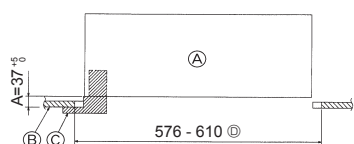
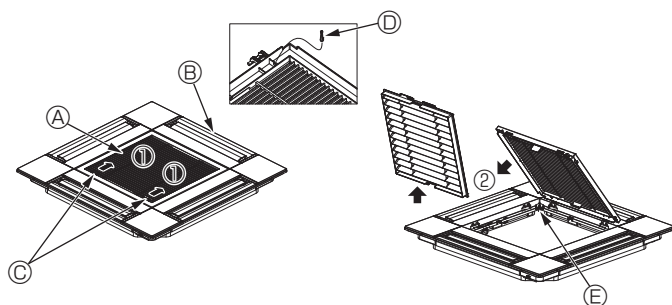
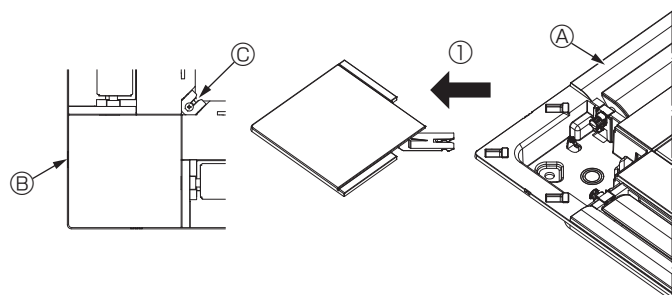

Fig. 5-2
Fig. 5-3
Fig. 5-4
②	Screw with washer	4	M5 × 0.8 × 28 (mm)
③	Gauge	1
④	Junction wire for signal receiver	1	Included when equipped with the signal receiver.
⑤	Junction wire for i-See sensor	1	Included when equipped with the i-See sensor.
⑥	Fastener	2	Included when equipped with the signal receiver.
⑦	Fastener	2	Included when equipped with the i-See sensor.
⑧	Wireless remote controller	1	Included when equipped with the wireless remote controller.
⑨	Remote controller holder	1	Included when equipped with the wireless remote controller.
⑩	LR6 AA batteries	2	Included when equipped with the wireless remote controller.
⑪	3.5 × 16 tapping screws	2	Included when equipped with the wireless remote controller.
5.2. Preparing to attach the grille (Fig. 5-2)
- ① Main unit
- ② Ceiling
- ③ Gauge (Accessory)
- ④ Ceiling opening dimensions
5.2.1. Removing the intake grille (Fig. 5-3)
- Slide the levers in the direction indicated by the arrow ① to open the intake grille.
- With the intake grille in the "open" position, remove the hinge of the intake grille from the grille as indicated by the arrow ②.
- ① Intake grille
- ② Grille
- ③ Intake grille levers
5.2.2. Removing the corner panel (Fig. 5-4)
- Remove the screw from the corner of the corner panel. Slide the corner panel as indicated by the arrow ① to remove the corner panel.
- ① Grille
- ② Grille hook
- ③ Corner panel
- ④ Hole for the grille's hook
- ⑤ Screw